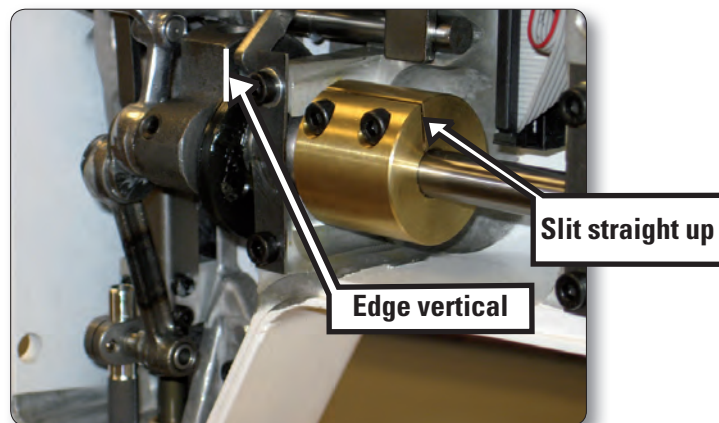

Figure 3.2
First Pitman screw up, edge vertical and aligned with lifter arm. At this position, the counterweight chamfer always goes to the left side next to the bearing and the slit is either straight up with screws on top or straight down with screws on bottom straight out at you. (Figure 3.2).
- Check that the timing of the eccentric is still correct (see counterweight timing page 19, figure 3.2)